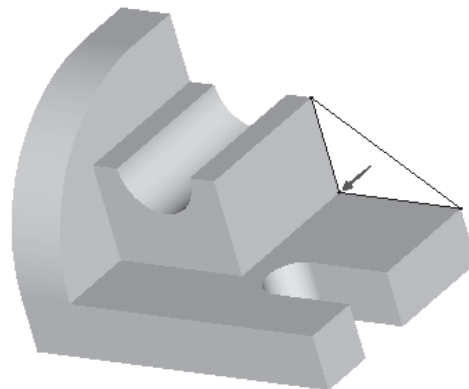

Figure 4-77 Arrow showing the direction of material addition
2. After the sketch is complete, choose the **Continue with the current section.** button. The **SPEC TO** menu is displayed and you are prompted to specify the depth of extrusion. Using the CTRL+middle mouse button orient the model as shown in Figure 4-77.